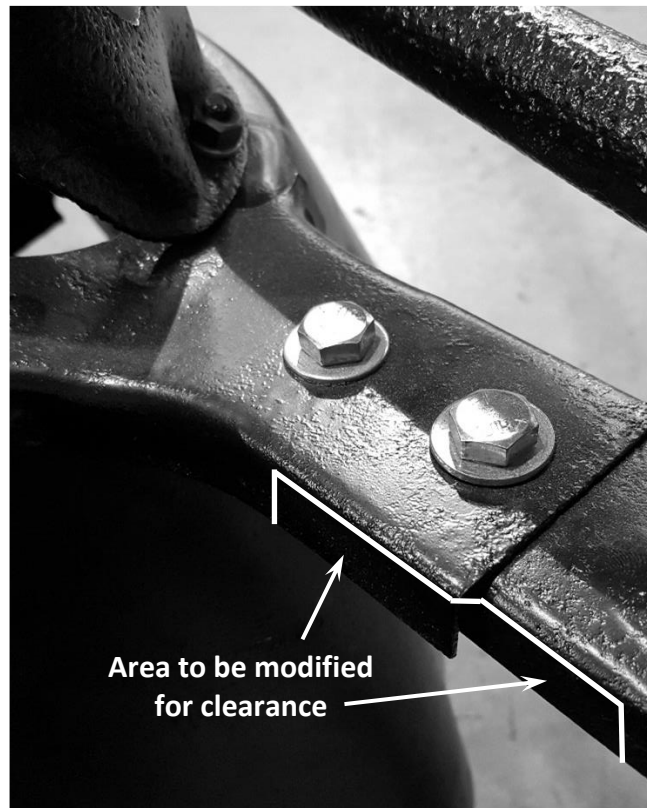

Figure 4 – Shock Tower Brace Modification
- a. Figure 4 below shows the area on the shock tower brace that will possibly require modification.